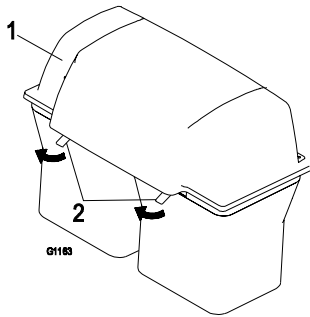

Figure 12
2. Pull up on both bagger retainer latches until they unlock from the bag frame (Figure 12). Open (raise) the hood.